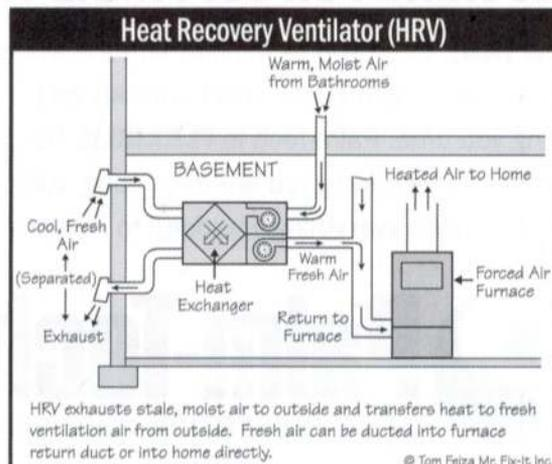

Figure 11
- Consider forced ventilation with an exhaust system or a heat recovery ventilator. This upgrade is best left to professionals. It is only required when serious moisture problems can't be solved by any other method. See Figure 11.